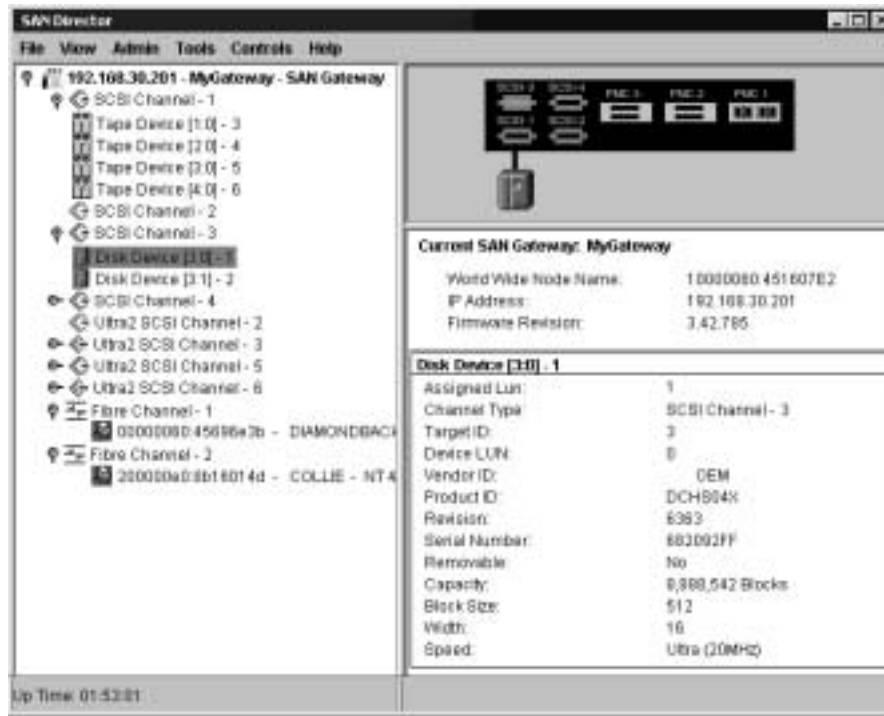

Figure 6-4: Determining the Assigned LUN
- Expand the tree to display storage devices and determine their assigned LUNs. Figure 6-4 shows the Assigned LUN for the selected SCSI device on SCSI Channel 3.